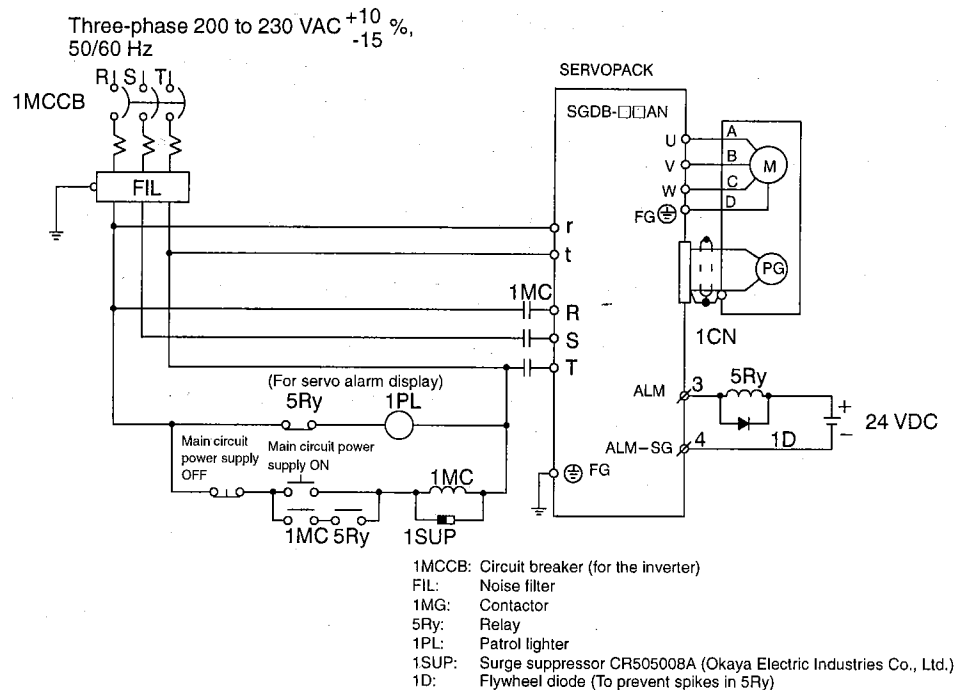

Figure 5.1 Example of Power ON/OFF Sequence
2. During the power ON and OFF sequence shown in Figure 5.1, it takes up to approx. two seconds until the normal signal is valid once power is turned ON assuming that the CONNECT command has been received.
3. It takes up to approx. two seconds to initialize settings in the SERVOPACK when the control power is turned ON. The servo alarm signal will be output (ON) until the communication connection is completed for the CONNECT command.